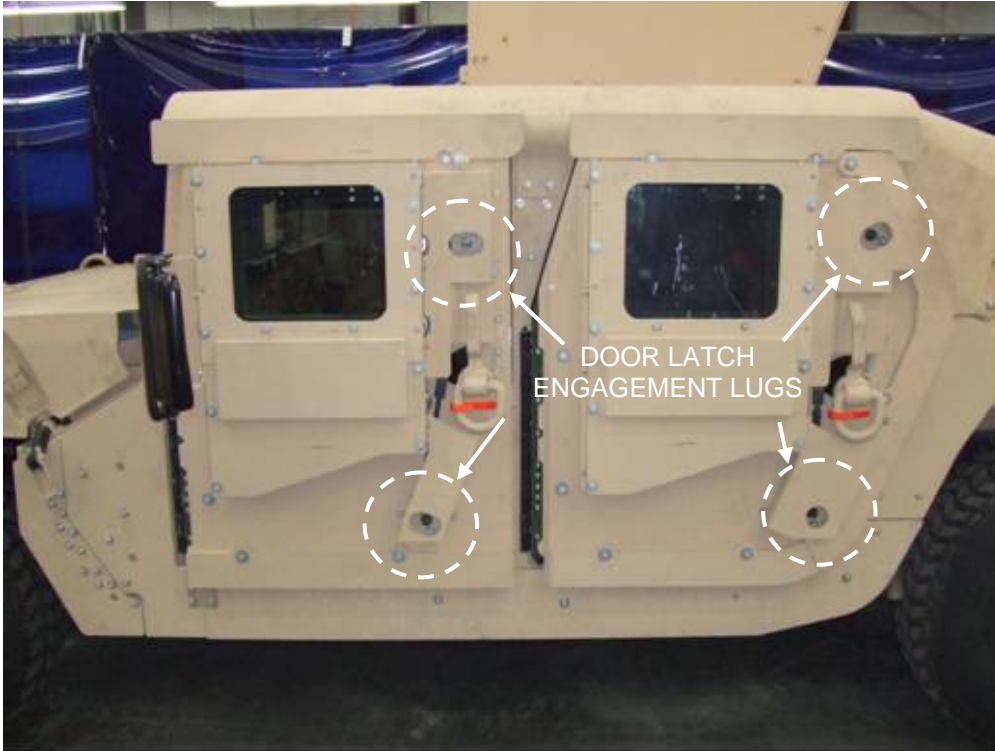

Figure 6
b) Locate two external door latch engagement lugs in opening Refer to figure 6.